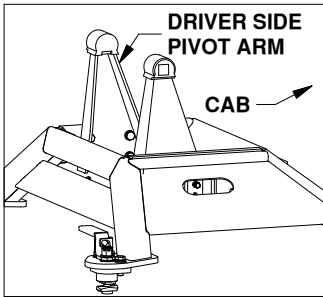
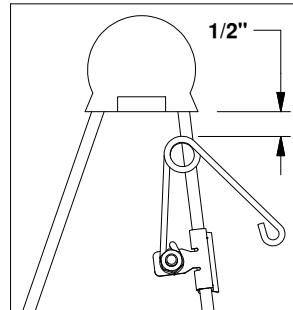

Figure B3: Base View
Figure B4: Driver side pivot arm.
2. Locate the flange which will be closest to the truck cab on the driver side pivot arm, see Figure B3. The clip should be placed so that when the springs coil is in the line with the edge of the arm there will be 1/2" of clearance between the bottom of the rubber bumper and the top of the spring, see Figure B4. Drive the clip securely onto the flange with a hammer.